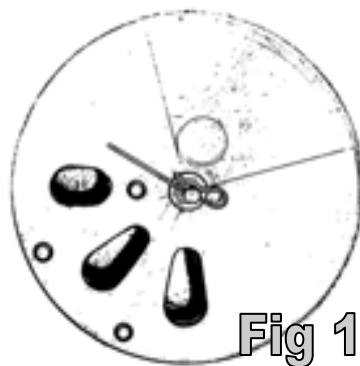

Fig 1
1. Open shut-off fully so that the holes in the bottom of the hopper are open completely. **Fig 1**